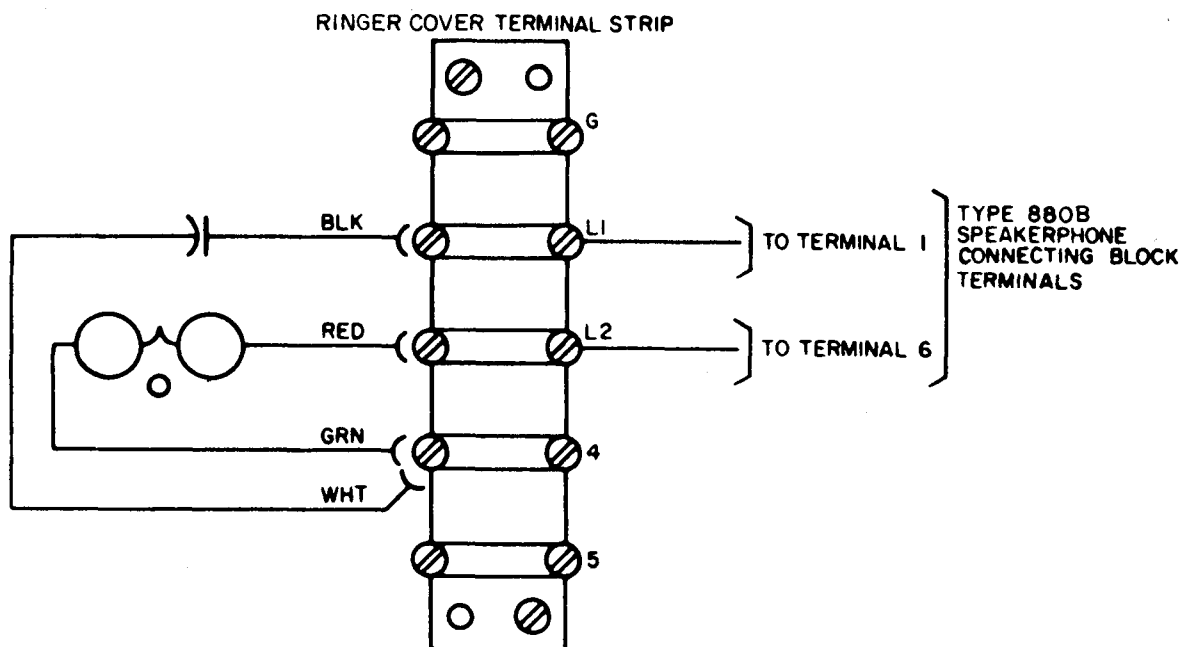

Figure 3. External Ringer Wired for Bridged Ringing.
4.06 External ringer. When an external ringer is to be used, a Type 45 ringer and Type 33 ringer cover must be ordered separately. The connections between the ringer, ringer cover, and the speakerphone for the various types of ringing are shown in Figures 3, 4, and 5.